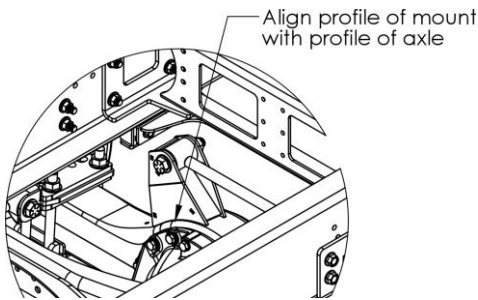

Figure 21. Position Axle Mount
4. Temporarily place the mount onto the axle as shown in Figure 21. The template profile should approximately match the axle profile.